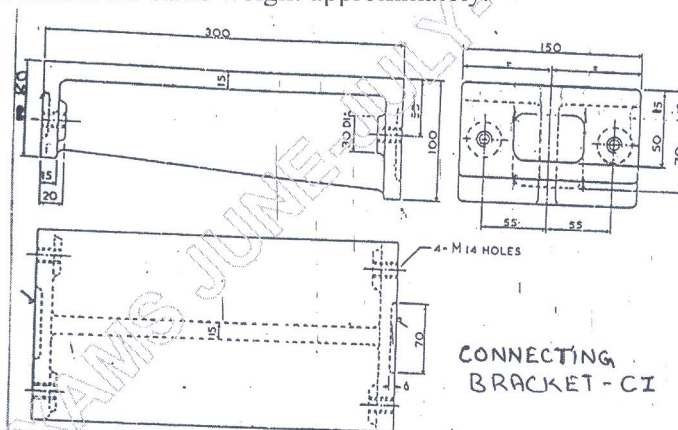

Fig. Q6 (b)
b. A CI connecting bracket has to be casted as shown in Fig. Q6 (b). Identify the possible parting lines and sand cores. Suggest a suitable design modification to remove the need of sand cores. Retain the same weight approximately. (11 Marks)